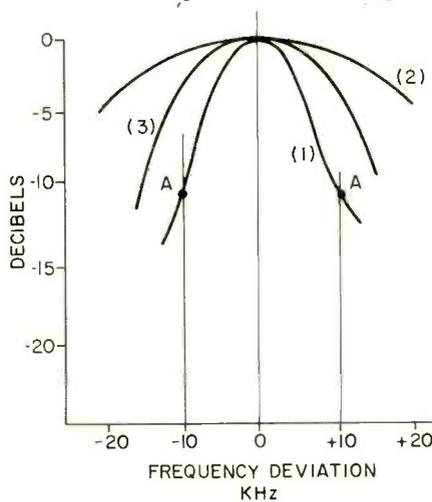

FIG. 9—RESPONSE CURVES of high-, medium- and low-Q L-C resonant circuits.
A resonant circuit is commonly concerned with selectivity and bandwidth. It must pass (or oppose) the resonant frequency as well as any desirable sidebands while discriminating against any undesired frequencies. A resonant circuit used in the reception of standard AM broadcast signals must pass the carrier frequency plus the 10-kHz sidebands containing the sound. In Fig. 9,
FIG. 9—RESPONSE CURVES of high-, medium- and low-Q L-C resonant circuits. Curve (1) shows the response of a parallel-resonant circuit having a very high  $Q$  factor. This very high  $Q$  circuit will readily pass the carrier frequency but the sideband frequencies, at  $A$  and  $A'$ , will be reduced too much. Curve (2), with a very low  $Q$  circuit, goes to the other extreme and would pass much of the sideband frequencies associated with an adjacent-channel station. Sideband frequencies would be reduced by the medium  $Q$  circuit represented by curve (3) but that reduction could probably be tolerated. Thus, the  $Q$  of a resonant circuit determines its selectivity and its bandwidth.